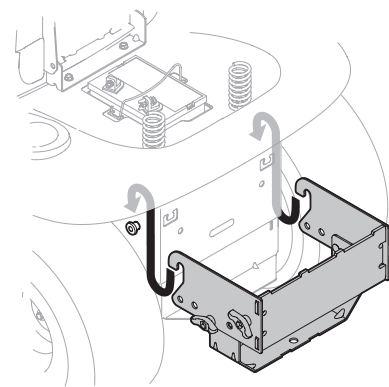

Figure 3
1. Place the hooked ends of the mounting assembly over the shoulder bolts on the tractor and line up the hitch support bracket center hole with the hole on the tractor's hitch. See Figure 3.